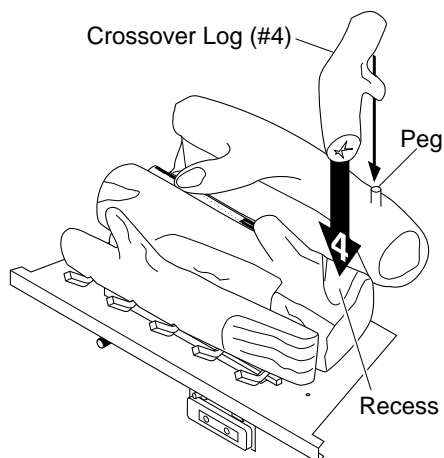

Figure 47 - Installing Crossover Log (#4)
4. Place crossover log (#4) onto the peg (right) on back log (#2) and into the recess of the middle log (#1) (see Figure 47).